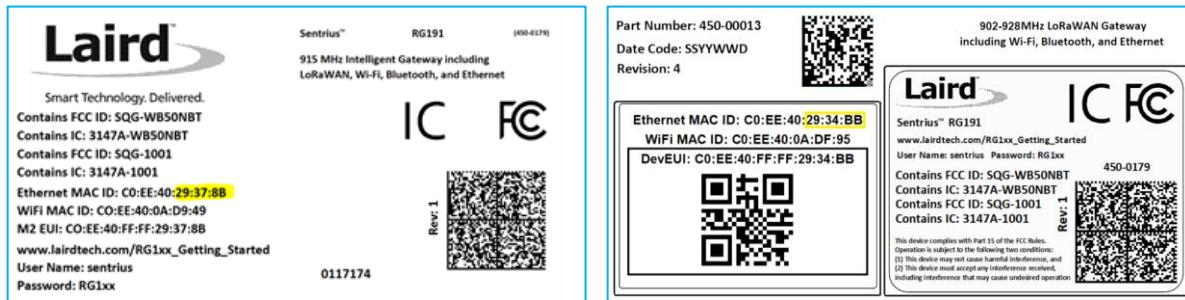

Figure 4: Bottom label (Standard GW – Left, AS923 & AU915 Region Supported/Latest Version – Right)- last three bytes of the Ethernet MAC address highlighted
3. Connect to the access point rg1xx**29378B**, where 29378B are the last six digits of the Ethernet MAC address found on the label on the bottom of the gateway (Figure 4).
1. Determine the last three bytes of your gateway's Ethernet MAC address. This can be found on the label on the bottom of the gateway; the last three bytes are highlighted (Figure 4).